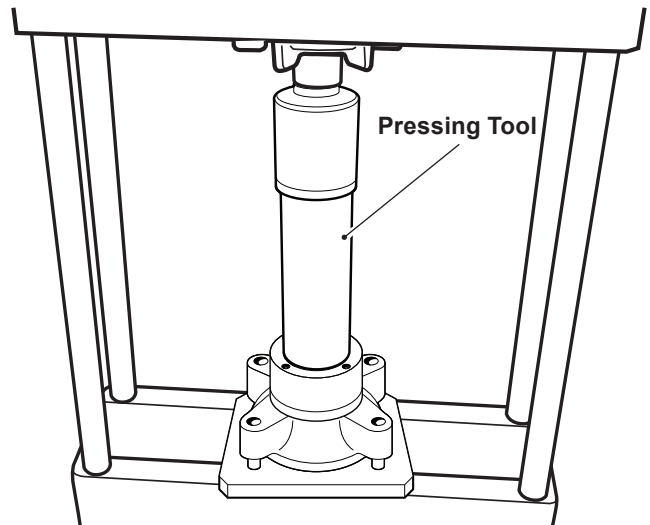

Figure 9, Output Shaft/Press Tool
6. Position output shaft (7) over motor housing (9) and carefully lower into the motor housing (9). Press the output shaft with ball bearing, washer and seal into motor housing. See figure 9.